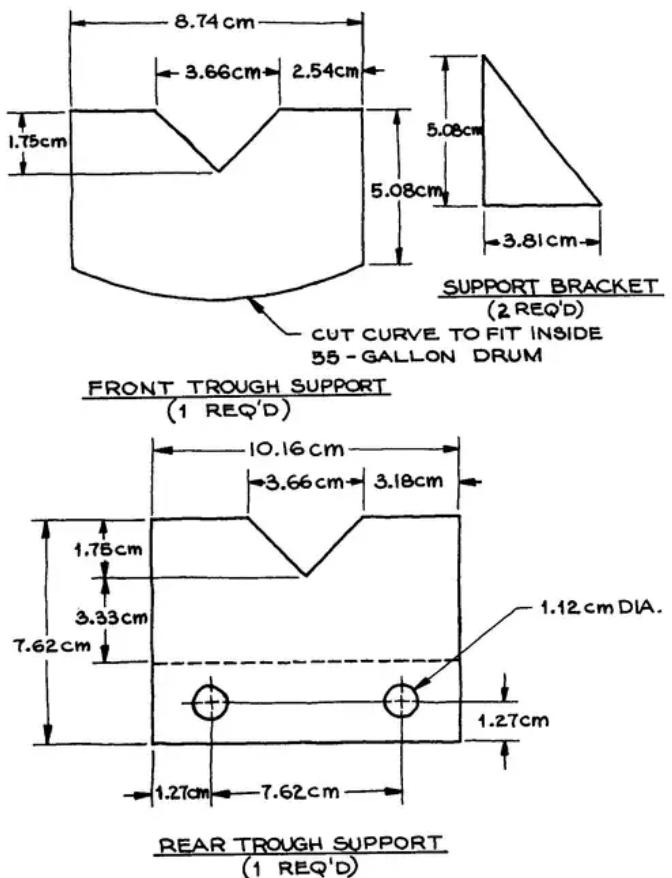

Figure 5. Front and rear trough supports.
Using Figure 4 as a suggested locating guide, cut out the sheet metal pieces for the front and rear trough supports as shown in Figure 5.
- 4 lower cover (see Figure 5)
Braze the support brackets to the sides of the front trough support (see Figure 5).